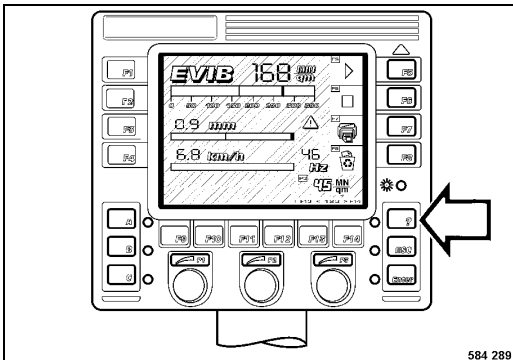

Fig. 85
- Press "F6" (Fig. 85) to change to the menu screen.